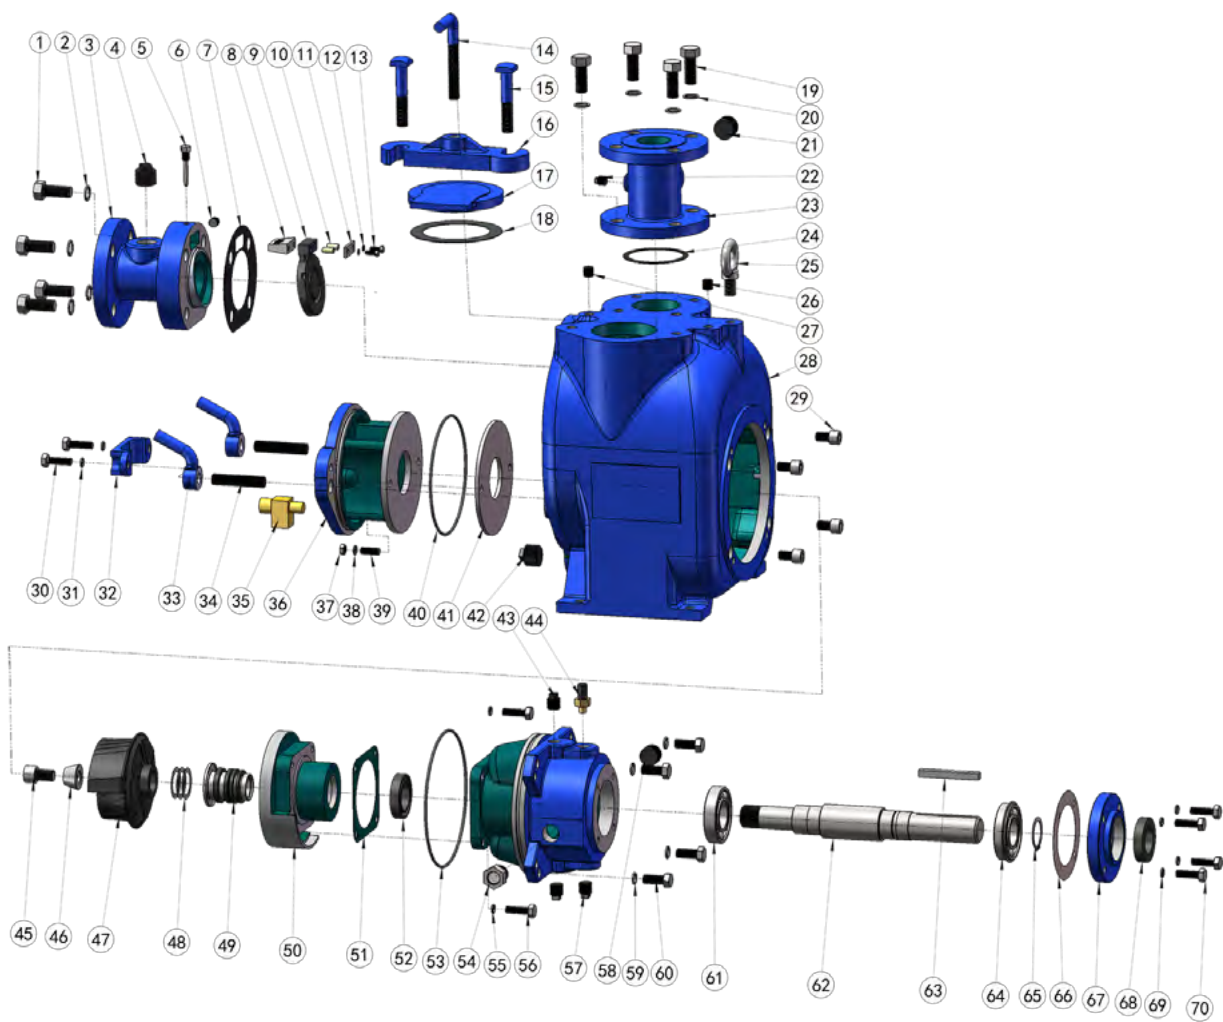

Figure E-1. Pump Model TSP-20 2"
This pump requires little service due to its rugged, minimum maintenance design. However, if it becomes necessary to inspect or replace the wearing parts, follow these instructions which are keyed to the exploded and sectional views (see Figures E-1 and E-2) and the accompanying parts lists.
Back Cover and Wear Plate Removal (Figure E-1)
(Figure E-1)
Remove the hardware (59 and 60) securing the rotating assembly to the pump casing, loosen socked head cap screw (29, Figure E-1) to remove the rotating assembly from the pump casing. Remove the bearing housing O-ring (53)